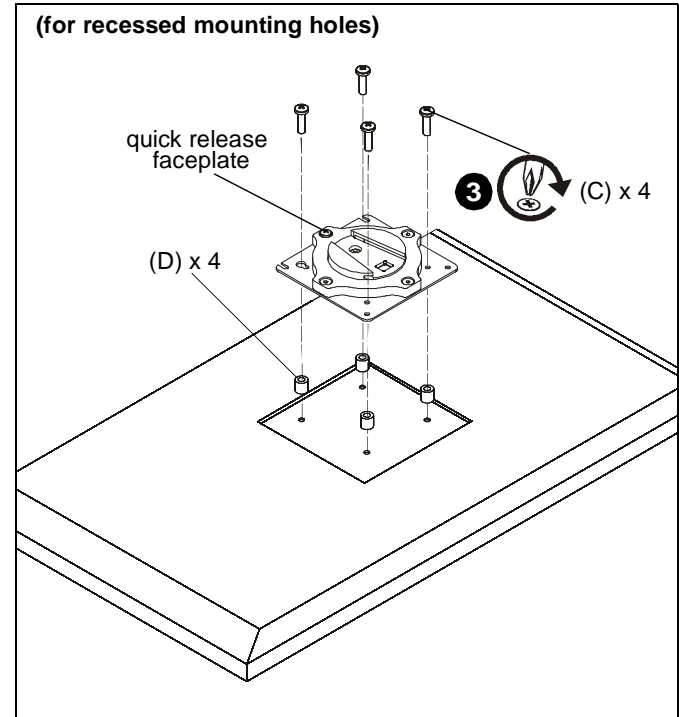

Figure 5
- Place four spacers on top of mounting holes on back of display. (See Figure 5)
- Using Phillips screwdriver, carefully install four M4x20mm screws through corresponding holes on faceplate, spacers and into the mounting holes on the display. (See Figure 5)